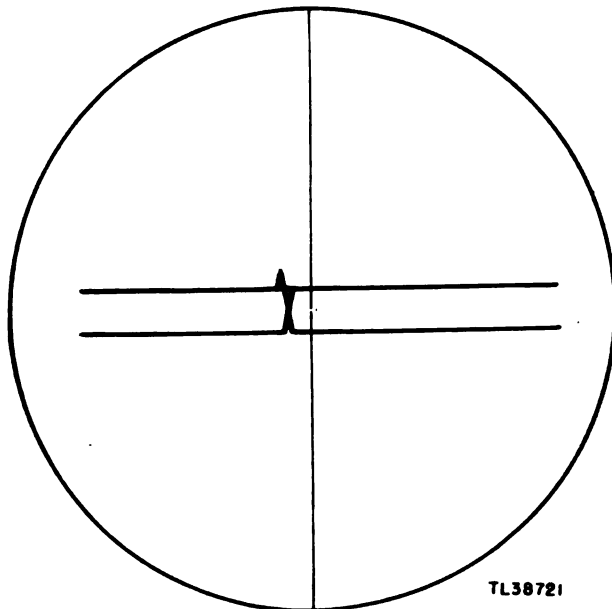

Figure 64. Baseline, normal pattern.
a. With the SELECTOR switch in position 4, turn the TEST switch to position 1. Starting with the BASELINE control in the counterclockwise position, turn the control clockwise until a double baseline is obtained with a sharp cross-over between the lines as shown in figure 64. This cross-over roughly represents the letter X. At this point it will be observed that the adjustment of the BASELINE control has the effect of peeling some lines off the top trace and piling them up on the lower. The BASELINE control is adjusted correctly when only one line has been removed (peeled off). The correct adjustment will leave a definite break in the center of the lower trace (fig. 64). It may be necessary to decrease the sensitivity of the radar signal to see the radar baseline clearly.